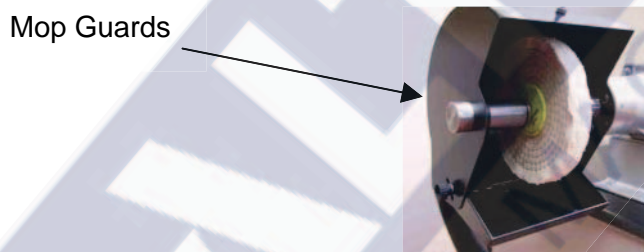

Fig 2: Guarding
- A comprehensive Guarding System to prevent injury from mops (fig. 2). The mop guard edges are also protected with beading to minimise risk of injury.